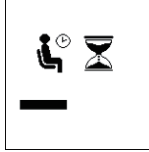

Fig.61
4. When key is pressed, it will start analysing and the display will change to the screen (Fig.61) below: